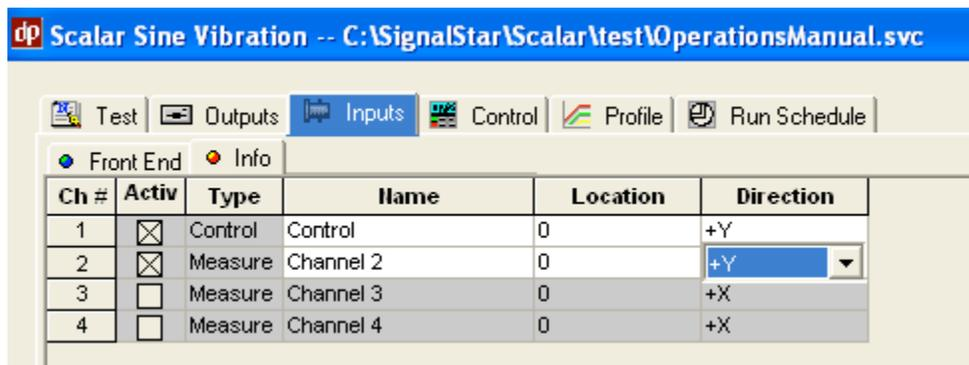

Figure 4-11: Screenshot of the Inputs portion of the Test Setup menu
- 10) In the “INPUTS” tab click “INFO” and “Direction” on channel 1 to “+Y” and “Direction” on channel 2 to “+Y”. See Figure 4-11.